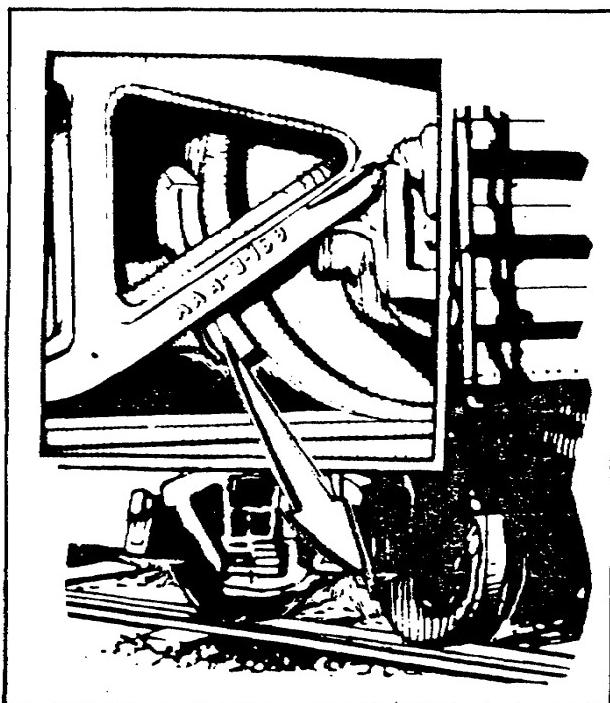

Figure 1-6. Brake Pad Properly Against the Railcar Wheel.
*Item 9.* You inspected the hand brake mechanism earlier. Now inspect for contact between the brake pad and the wheel (figure 1-6). If the brakes will not set, record this condition as UNSAT and reject the railcar.